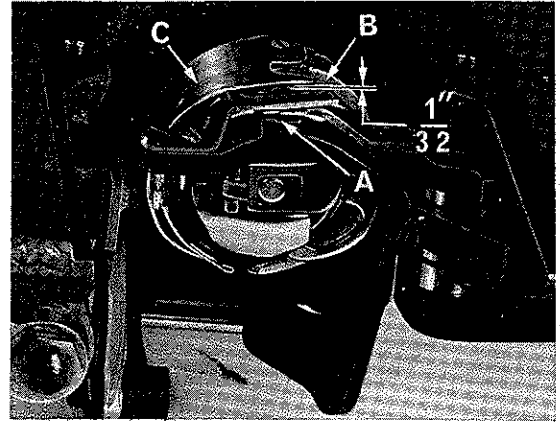

Fig. 12A
3. Assemble positioning finger and knife assembly into machine. Adjust the bobbin case holder positioning finger and knife assembly by turning the bobbin case holder until the finger recess is at the top. Place the projection (A, Fig. 12A) on the positioning finger into the bobbin case holder recess (B) and tighten the finger and knife assembly attaching screws securely, allowing 1/32 inch clearance between the outside edge of projection and the inside edge of bobbin case recess (Fig. 12A).